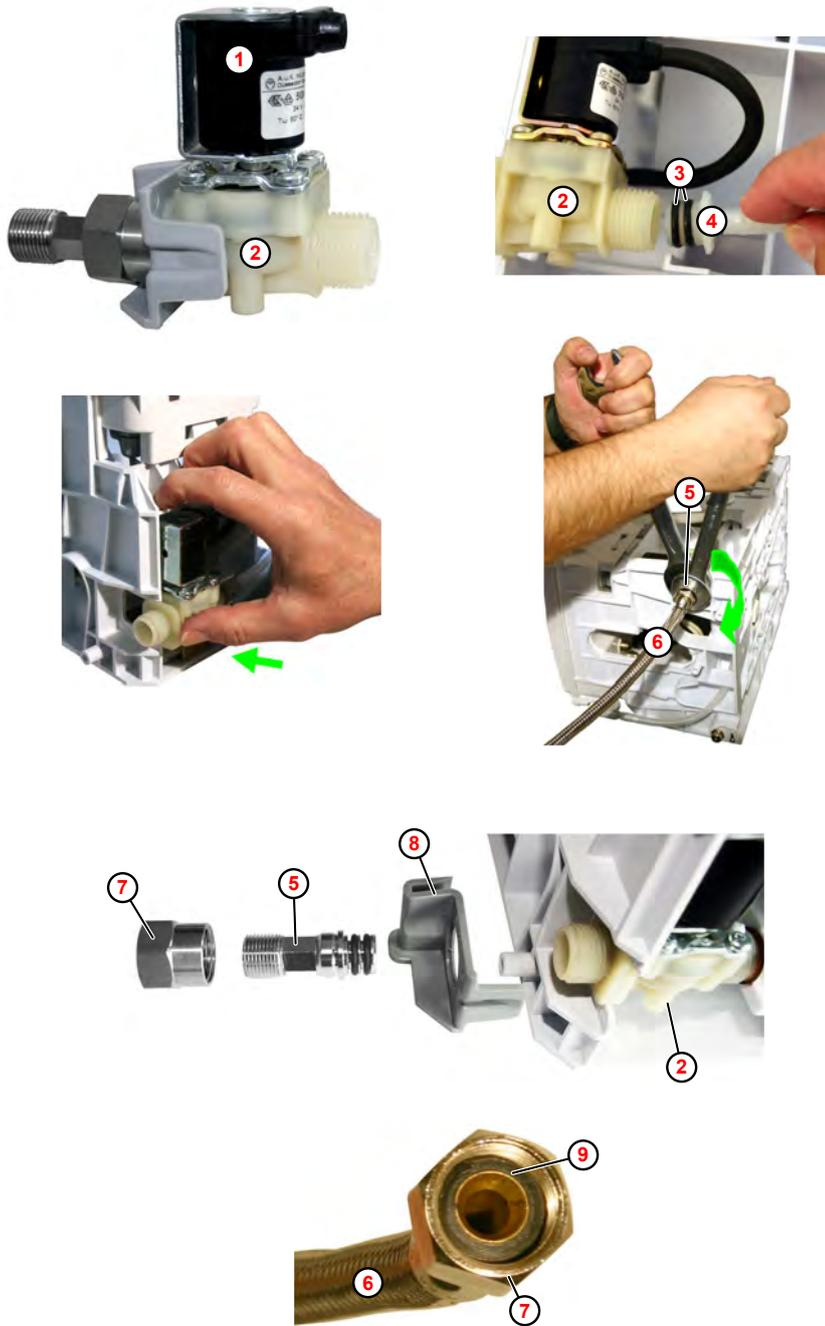

Fig. 21: Solenoid valve assembly
1. Press the coil (Fig. 21 , 1) against the valve body (2) while turning it approx. 30° clockwise (to the right) until the coil audibly clicks into place.
2. Clean both O-rings (3) on their connecting nipples (4) using a lint-free cloth.
3. Guide the connecting nipple (4) into the valve (2) until it is flush with the valve housing.
5. Attach the fastening element (8) to the valve body and housing.
6. Carefully insert the connection adapter (5) into the valve body (tight).
7. Screw the union nut (7) onto the valve body.
8. Screw the inlet hose (6) onto the connection adapter.